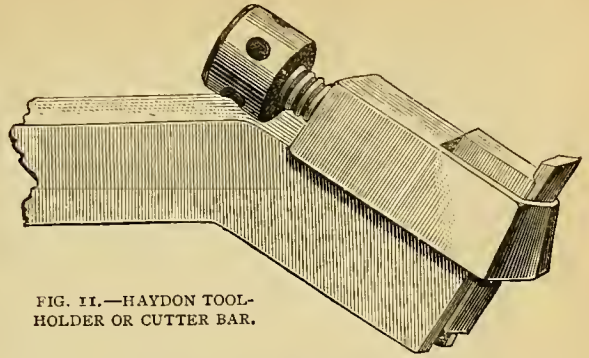

FIG. 11.—HAYDON TOOL-HOLDER OR CUTTER BAR.
21. *The Haydon Tool Holder or Cutter Bar*.—This adjunct to the lathe manufactured by the Britannia Company, *Colchester*, and illustrated in Fig. 11, will be found to be of the greatest possible advantage to metal turners in many ways, and more especially because those who possess it are saved the expense and inconvenience of sharpening their own tools. Now this to all amateurs who turn their attention to work of this character, is manifestly a great saving of time and labour, and particularly beneficial to those who are not skilful in imparting a good finish and shape to their tools when they can and do make them themselves, and to those who are compelled to do their best in the home manufacture of appliances of this kind, because no smith is near at hand to do the work for them. The cutters used with the tool-holder are easily sharpened to the correct angle. As so much depends on this for imparting a beautiful, smooth, and bright surface to the metal, and giving a superior finish to the entire work, directions for sharpening cutters to the exact angle required for each particular metal, and for using the tools to the best advantage,